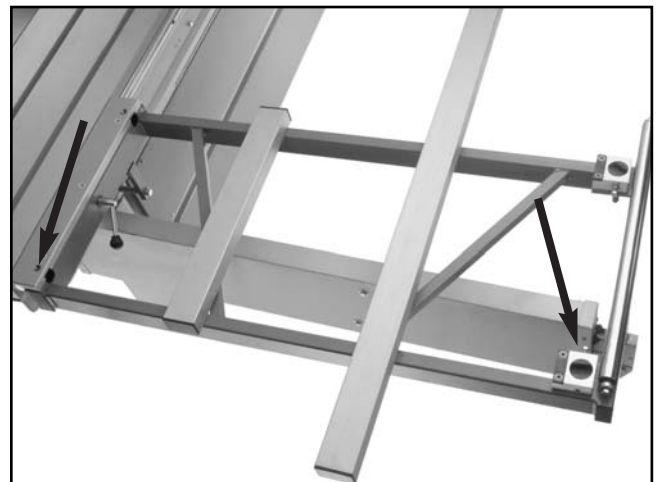

Figure 67. Guide pin holes used when mounting the crosscut fence for rip cutting operations.
3. Install the crosscut fence in the guide pin holes shown in **Figure 67** and lock it in place with the cam locks. Note—*First, drop the crosscut fence into the outside edge guide pin hole, then drop the other end of the crosscut fence into the guide pine hole closest to the sliding table.*